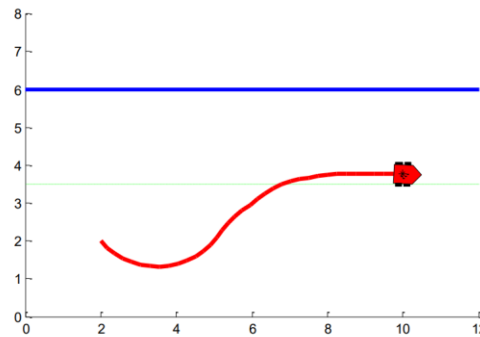

Figure 1: LS Wallfollower trajectory under PD controller
7. Assume a left-handed wallfollower (like in Figure 1) with a desired standoff distance from the wall (blue line above) of 2.5 meters (dashed green line).
1. You are to implement a least-squares wallfollower LS_WallFollower(kP, kD, y_wall) based upon the LS_Line function above. kP and kD correspond to the proportional and derivative gains for your controller. This will control the relative position and orientation of your robot with respect to the wall described in Figure 1. y_wall denotes the y-intercept of the wall. You may assume that it is always parallel to the x-axis.